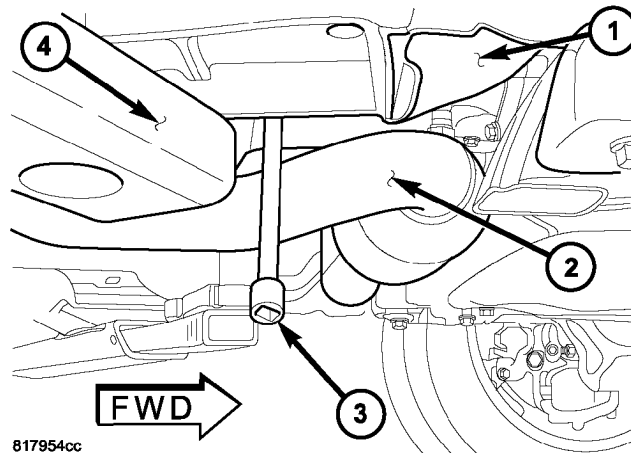

Fig. 2 FABRICATED PLUG IN PLACE IN **2005 WK/WH VEHICLES**
- c. Slip the heater hose over the cooling coil drain tube, located above the right side of the transmission using the socket and extension to reach up between the frame and the exhaust. Leave the hose socket and extension in place (Fig. 2). Proceed to Step #7.